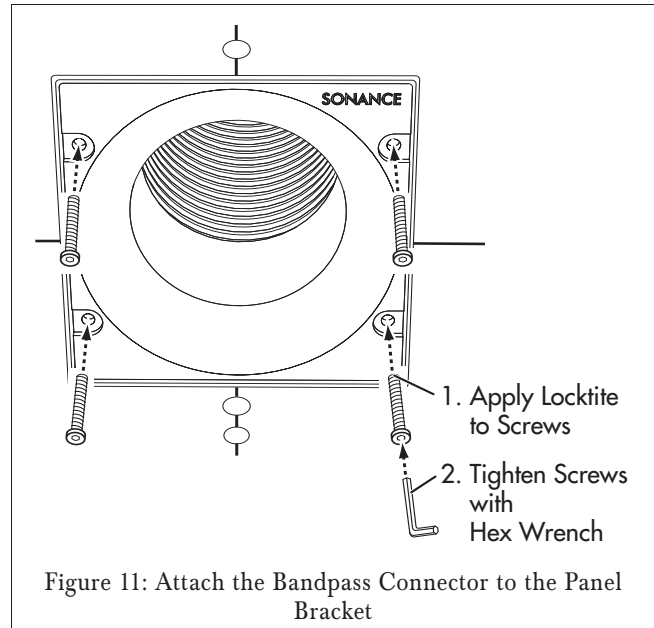

Figure 11: Attach the Bandpass Connector to the Panel Bracket
7. Use the hardware included with the Bandpass Connector to attach it to the Panel Bracket (see Figure 11):